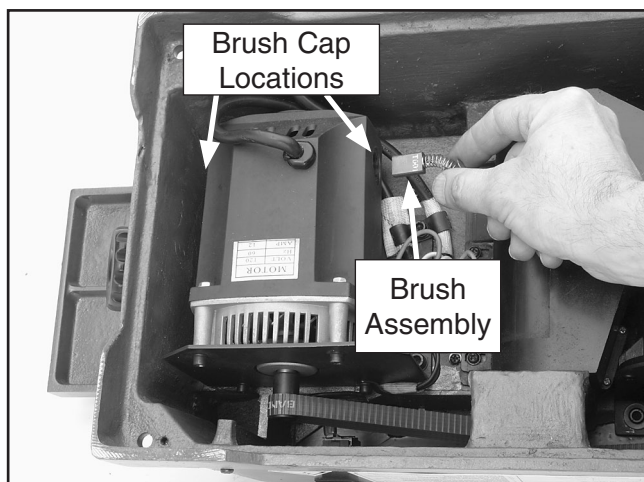

Figure 47. Removing a motor brush.
5. Use a dime to unscrew the brush caps. (See **Figure 47** to locate the brush caps.)